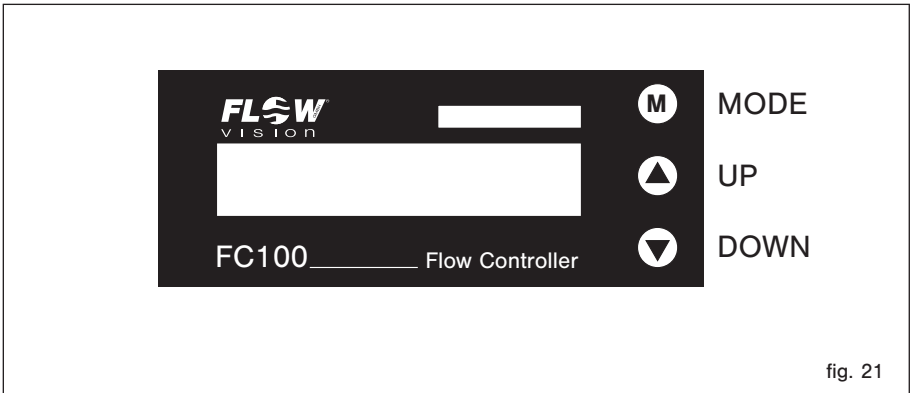

fig. 21
Setting and configuration is by means of three front keys (M) MODE, (▲) UP and (▼) DOWN (see fig. 21).